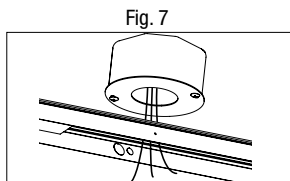

Fig. 8
8. Secure fixture housing to ceiling with (2) #10 x 1-1/2 in. wood screws (not provided). Find (2) holes located at each end of the fixture housing and screw in or drill in (2) screws into ceiling joist (not plasterboard). If joist can not be located, use toggle or molly bolts (not provided) at each end (Fig. 8).